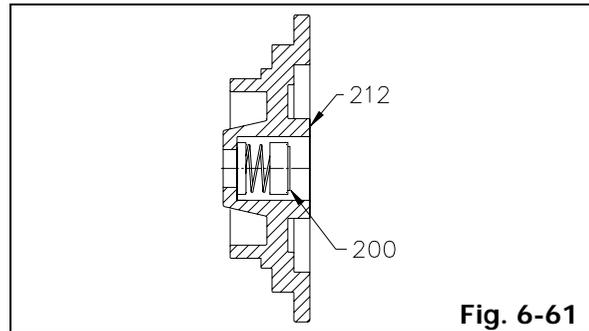

Fig. 6-61
1. Place the rotary portion of mechanical seal (200) carefully into stuffing box cover (212). Make sure that the lapped face of seal is facing outside (Fig. 6-61).